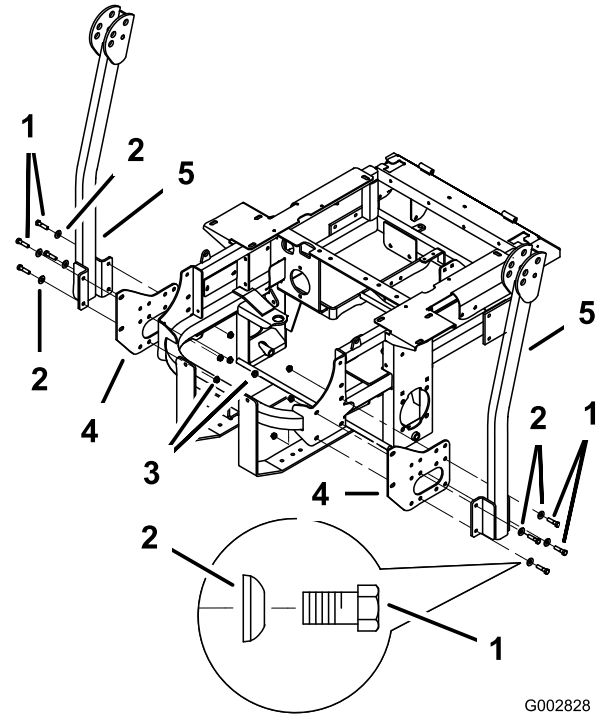

Figure 5
2. Remove the bolts, nuts, and washers holding the roll bar to one side of the machine. Discard the nuts, bolts, and washers (Figure 5).
3. Install the bagger side plate and the roll bar section to the side of the machine using 4 bolts (3/8 x 1-1/2 inches), 4 curved washers (3/8 inch), and 4 flange nuts (3/8 inch) (Figure 5).
5. Repeat the steps above for the opposite side (Figure 5).
Note: Make sure the curved washer are installed as shown in Figure 5.